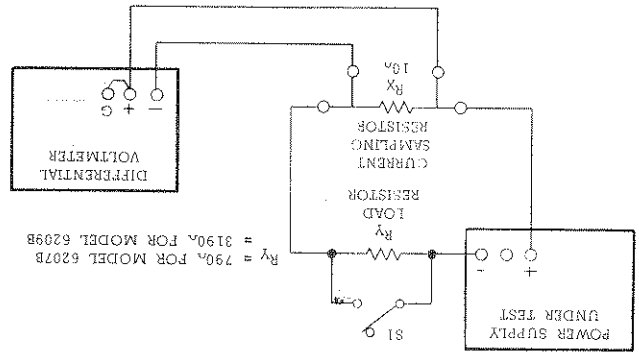

Figure 5-4. Output Current, Test Setup
- Connect test setup shown in Figure 5-4, leaving switch S1 open.
- Connect test setup as shown in Figure 5-4.
- Utilize test setup shown in Figure 5-4 leaving switch S1 open throughout test.
- Use test setup shown in Figure 5-4, except connect AC voltmeter across sampling resistor instead of differential voltmeter.